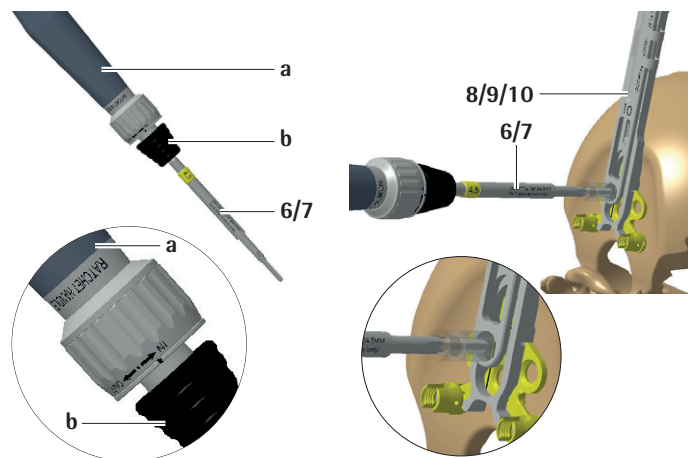

Fig. 7
The ratchet straight handle a (SZ001R) can be moved to the following positions by rotating the collar of the handle, as shown on the right side of the image, see Fig. 7:
- Forward (IN): for tapping
- ▶ Attach the tap 6/7 to the ratchet straight handle a (SZ001R), as shown on the left side of the image, see Fig. 7:
- ▶ Position the tap on the previously prepared entry point and cut the thread by rotating clockwise to the required depth while maintaining the appropriate trajectory, as shown on the right side of the image, see Fig. 7. Make sure to hold the tap perpendicular to the occipital plate, see Drill screw hole.